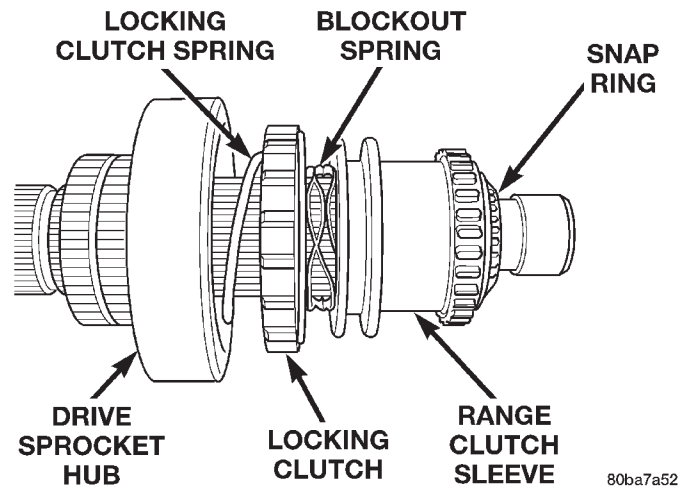

Fig. 58 Range Clutch Sleeve, Blockout Spring, Locking Clutch and Spring
- (3) Install locking clutch spring, locking clutch, blockout spring, and range clutch sleeve, to mainshaft as shown in (Fig. 58). Install snap ring.
- (4) Install drive sprocket hub to mainshaft and manually load the needle bearings.
- (5) Install new pads on range fork, if necessary.
- (6) Install range shift fork to range clutch sleeve. Install mainshaft/range shift fork assembly into transfer case and input planetary assembly. Rotate fork until it engages with slot in shift sector.
- (7) Install shift rail to shift range fork and transfer case housing.
- (8) Rotate shift sector to Neutral position.